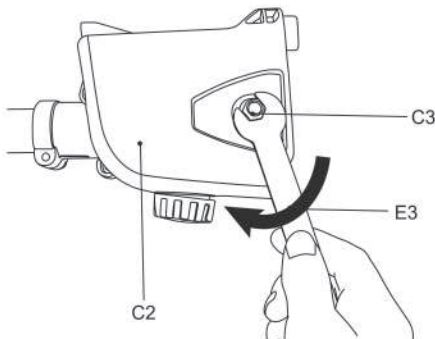

Fig. 12
- 8) Refit the cover (C2), fit the rear of cover then front, ensure pin is located in position. Slightly tighten the remaining nut (C3) by using the assembly wrench (E3) (Fig. 12). Do not tighten the nuts completely as saw chain tensioning is required first.